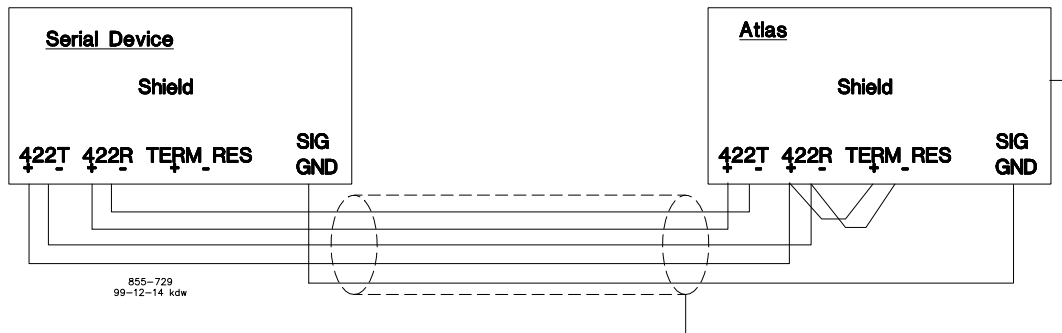

Figure 6-18. Wiring Example–RS-422 Interface to the SmartCore Board
- Refer to Figure 6-18 for RS-422 wiring. The transmit data pairs (422T+ and 422T-), receive data pairs (422R+ and 422R-), and signal ground (SIG GND) must be properly connected as shown. In addition, the shield (SHLD) should be connected in at least one location. The last unit in the network chain, and only the last unit, should have its receiver terminated with a resistor. The AtlasPC has resistors built in (TERM RES) for this purpose. The unit at each end of the network should be terminated.